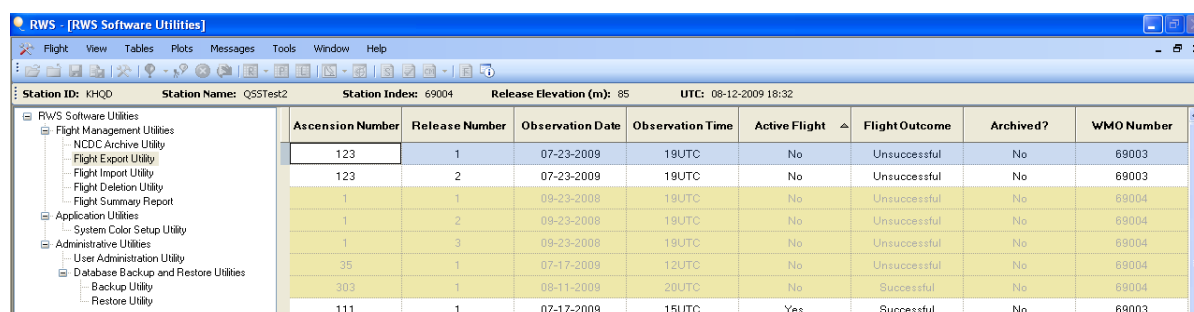

Figure B-5: Select Ascension to Export
5. Select **Flight Management Utilities** and **Flight Export Utility** from the *RWS Software Utilities* menu displayed on the left of the screen. The *RWS Software Utilities* window is updated to display a list of flight files (Figure B-5).